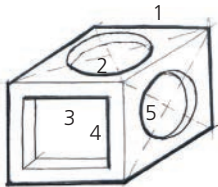

Figure 2.9 Initial 3D thumbnail sketch with thick and thin line enhancement
- Hard-edge lines should also be thick bold lines (see lines 1, 2, 3, 4 and 5 on Figure 2.9). These are lines where only one side of a line can be seen – the other side of the line is around a corner, or in a hollow or recess.